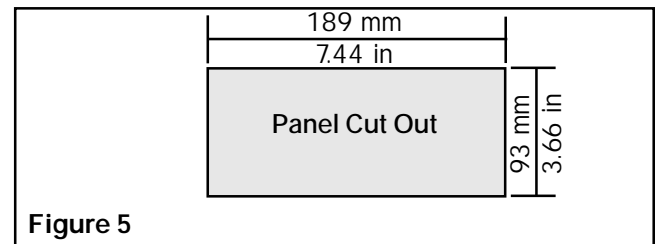

Figure 5
1. Insert "TM140D" into cutout in panel (See Fig. 5 for Panel Cutout Dimensions).